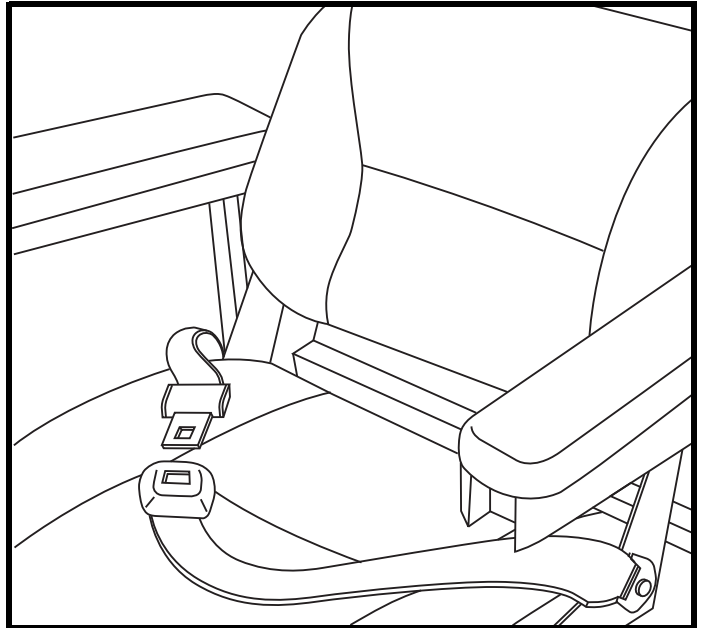

Figure 17. Positioning Belt Adjustment
Your power chair may be equipped with a positioning belt that can be adjusted for operator comfort. See **figure 17**. The positioning belt is designed to support the operator so that he/she does not slide down or forward in the seat. The positioning belt is not designed for use as a restraining device.
1. Once seated, insert the metal tab on one side of the belt into the plastic housing on the opposite side until you hear a click. See **figure 17**.